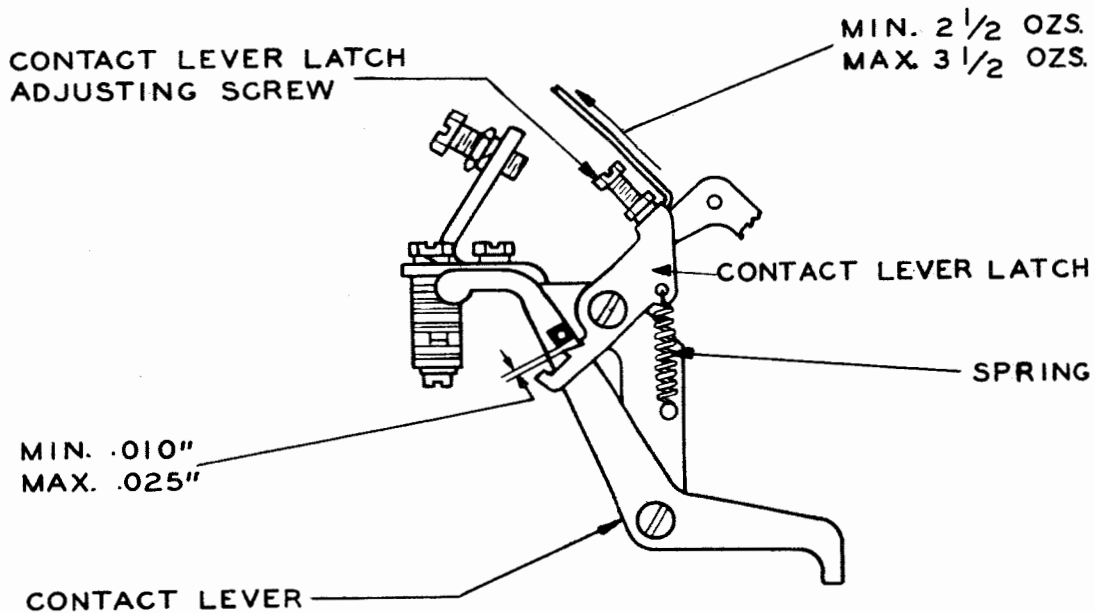

Figure 5
4.04 Contact-lever Latch should clear the stud on the contact-lever by minimum 0.010 inch, maximum 0.025 inch when any printing combination is set up on the vanes and the main shaft is rotated until the printing-bail is in its extreme forward position. See Figure 5.
4.05 Contact-lever-latch Spring should have a tension of minimum 2-1/2 ounces, maximum 3-1/2 ounces when the contact-lever latch starts to move from its unlatched position. See Figure 5.